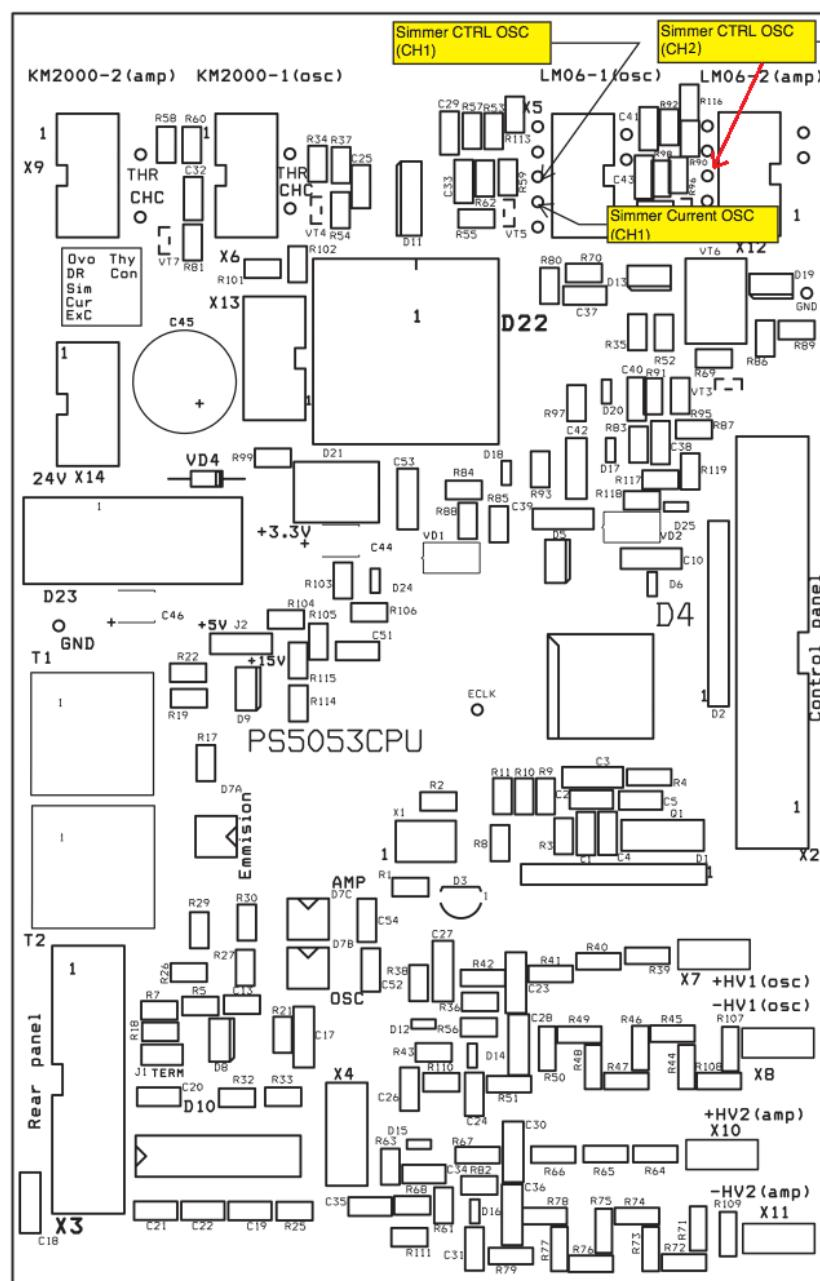

Figure 47 PS5053CPU board
2. If lamp simmers for short time, probably it is problem indicated above. Use the two channel oscilloscope to measure if the current signal appears after turning on the power supply. Check PS5053CPU board *Simmer CTRL* and *Simmer Current* signals. (Figure 47). When the *Simmer CTRL* goes to low level, after a few milliseconds *Simmer Current* signal should appear (goes to high level). If this does not happen, send the power supply to EKSPLA. If *Simmer Current* signal appears after *Simmer CTRL*, but power supply does not work as supposed, it has to be sent to EKSPLA. As mentioned earlier, it is very hard to adjust CPU board on customer site.
reminder for connecting them back (looking from the bottom side they are connected in this manner: two yellow *CH2 (-)*; *CH2 (+)*; then two green *CH1 (-)*; *CH1 (+)*). Also refer to Figure 47.